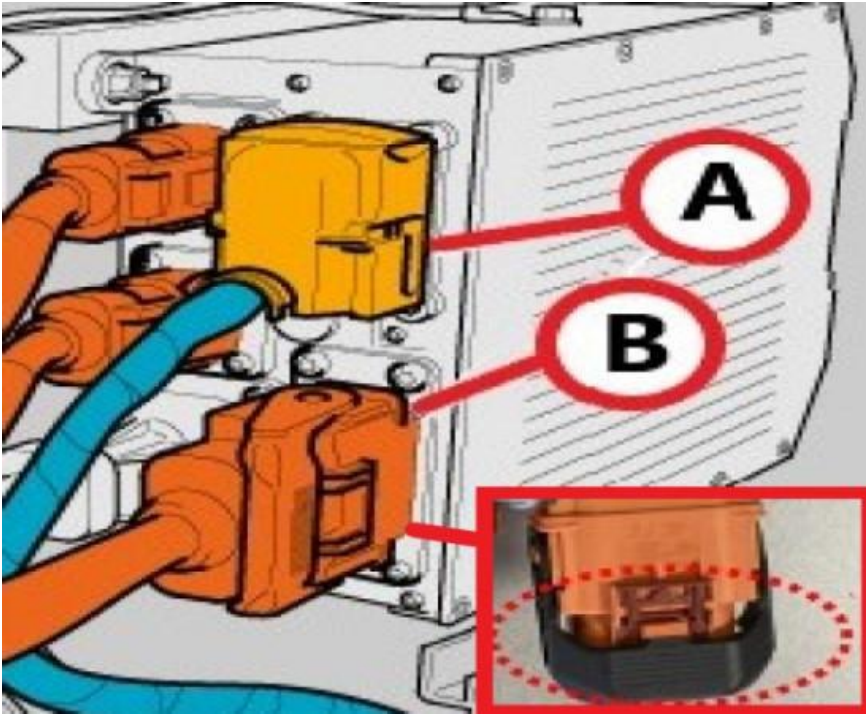

Figure 1
**IMPORTANT:** In the event that any of the plugs shown in Figures 1 and 2 are found not to be secure (primary and secondary latch are not fully locked into position) the operative must respond via the open DISS query and await feedback before conducting any further work
4) Referring to Figure 1 point A - Check and confirm the primary and secondary latches are fully locked in position